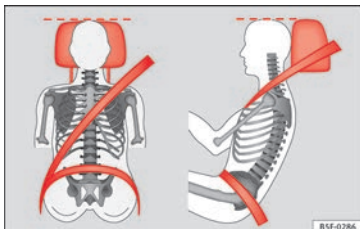

Fig. 75 Front and side view: head restraints and seat belts correctly adjusted.
- Adjust the head restraint so that the top is at the same level as the top of your head, at the very least, at eye level » **Fig. 75.**